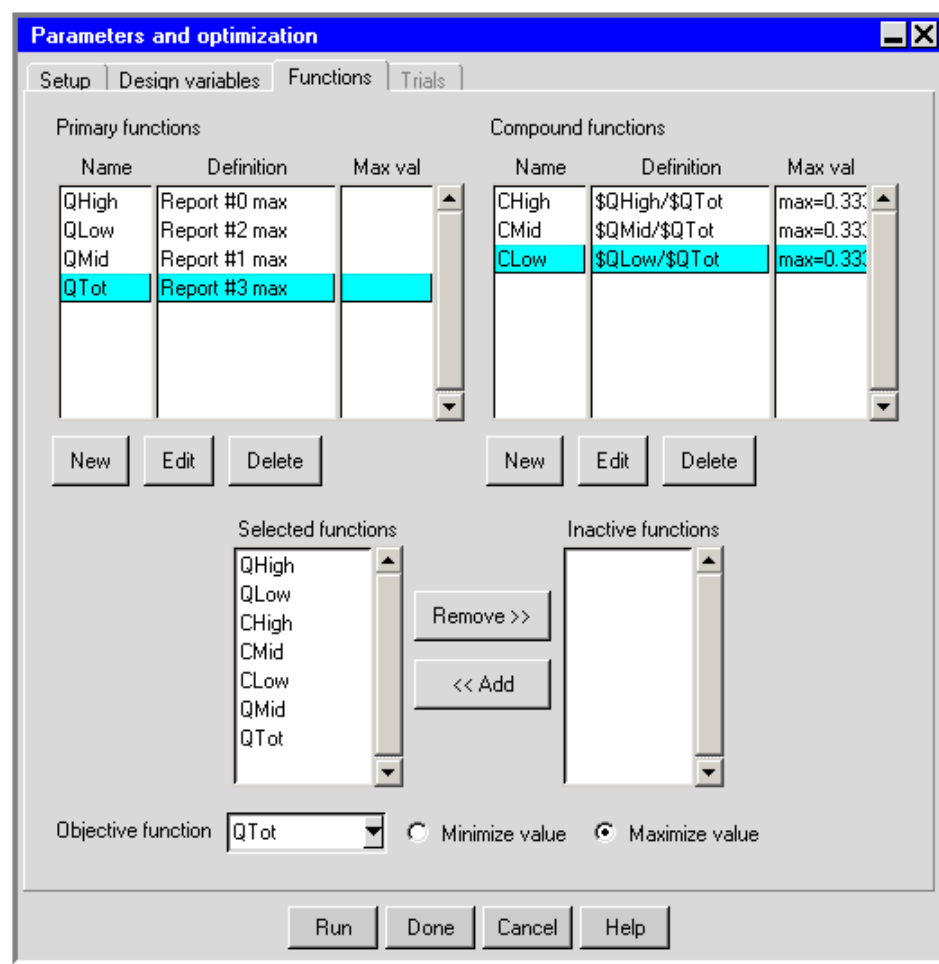

Figure 23.2.3: The Parameters and optimization Panel (Functions Tab)
- Define functions in the Functions tab of the Parameters and optimization panel (Figure 23.2.3). These functions will be set as objective or constraint functions.
- i. Select one of the previously defined functions from the **Objective function** drop-down list, in the **Parameters and optimization** panel (Figure 23.2.3).
- (a) To make a function inactive, choose the function under **Selected functions** in the **Parameters and optimization** panel (Figure 23.2.3) and place the function in the **Inactive functions** list by clicking the **Remove** button. Note that placing the function in the **Inactive functions** list does not delete the function. Functions placed in the **Inactive functions** list are not reported with the optimization results.